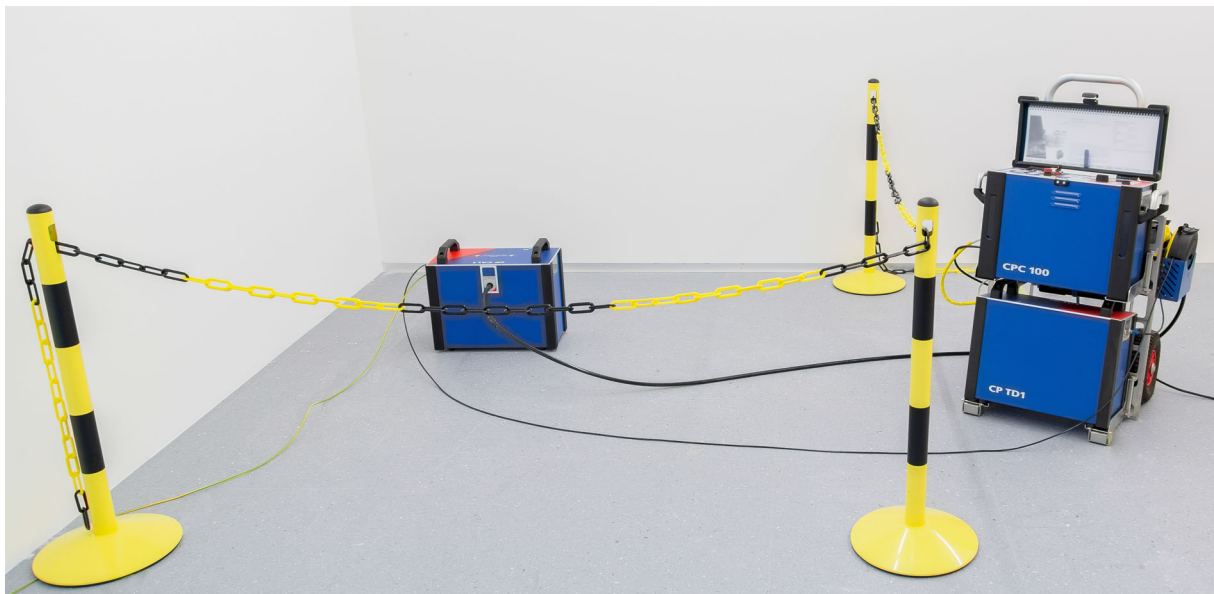

Figure 3-1: CP CAL1 calibration setup with safety barrier
4. Erect a safety barrier as depicted in Figure 3-1 below.